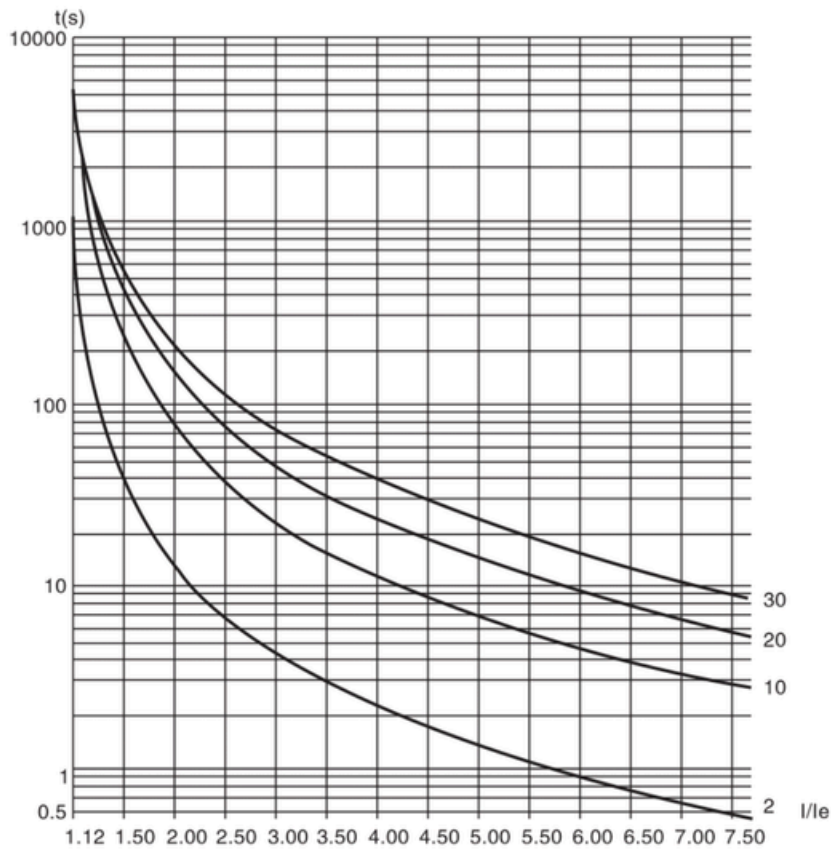

Fig. 5.4.7
- The three protection levels such as light load, standard and heavy load have complete protection functions. The difference is that the protection time curve of motor overload is different. The motor thermal protection time parameters are shown in Table 5.4.7 and Fig.5.4.7.